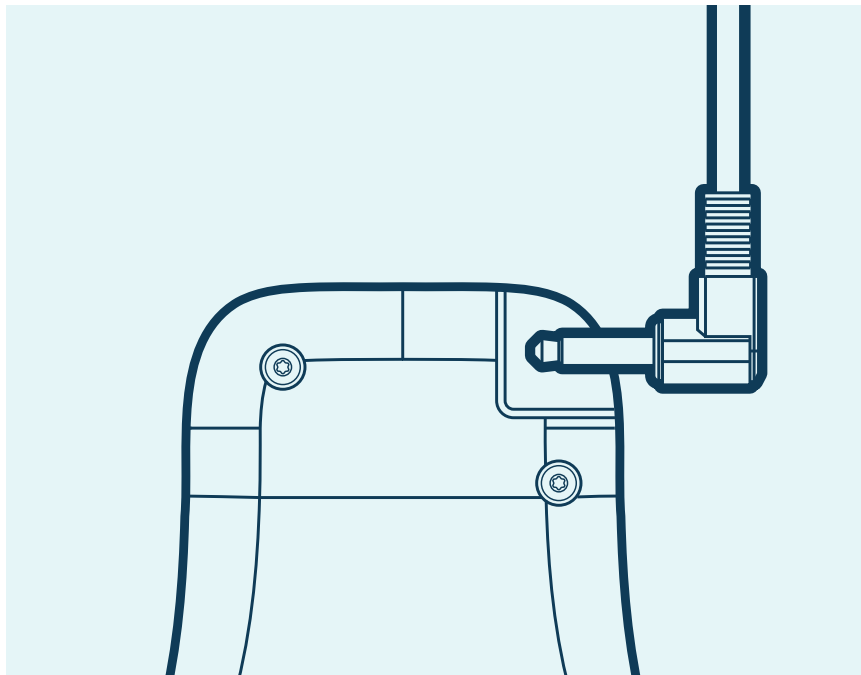

Figure 4: Insert Cable jack into Pulse Generator
2. Insert the Cable jack into the Pulse Generator (**Figure 4**)